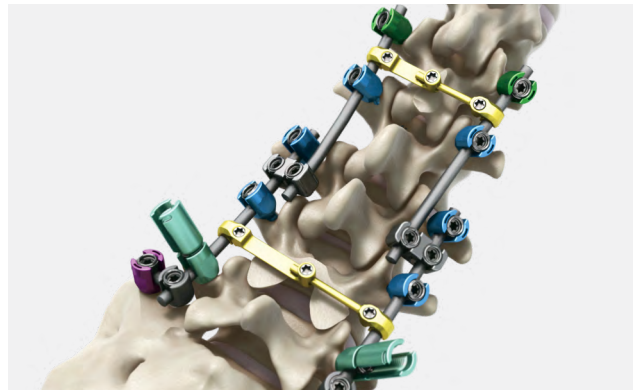
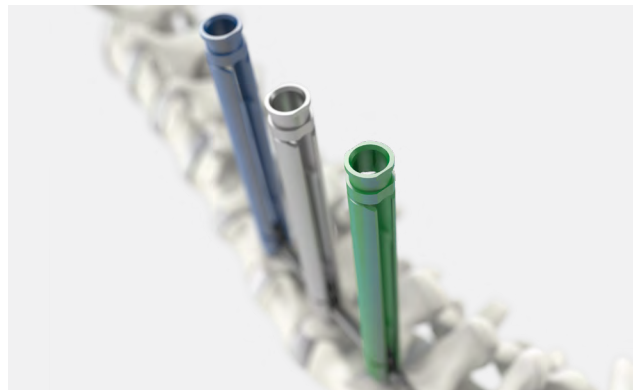

Figure 13
Figure 14
- Supplemental posterior pedicle fixation may be achieved with the Streamline® TL* (Figure 13) or Streamline MIS Spinal Fixation System (Figure 14).*